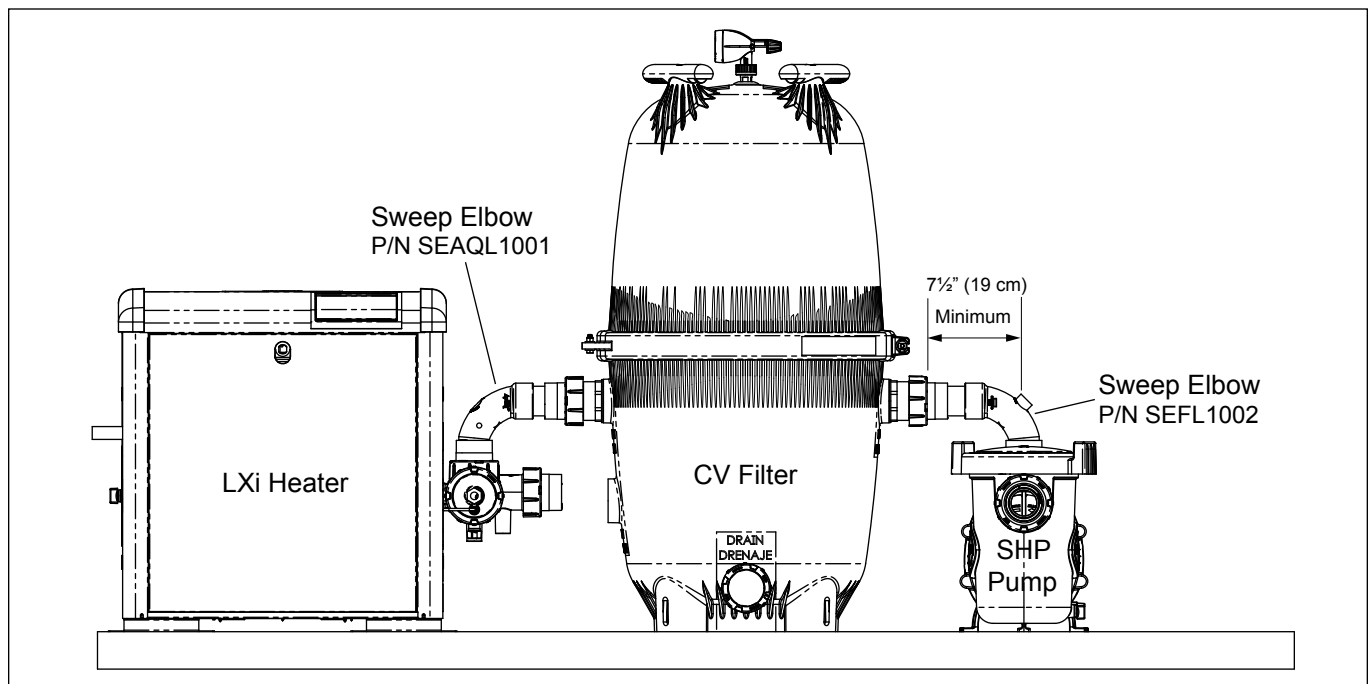

Figure 16. LXi Heater Sweep Elbow Installation
6. Clean the cut ends of the pipe and both ends of the sweep elbow(s) with an appropriate NSF® approved All Purpose cleaner/primer. Glue the sweep elbow(s) onto the cut pipe ends using an appropriate All Purpose NSF approved adhesive/glue. See Figure 16.